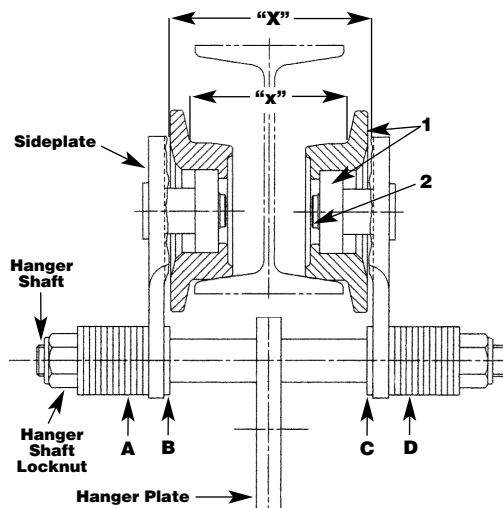

Figure 1 - ET-A Trolley
- Measure the I-beam flange width. Refer to Chart 3 - Spacer Washer Adjustment Chart for initial trolley adjustment. Check "X" dimension (See Figure 1) against Chart 3 and compare wheel flange spacing to beam flange width measurement before actually installing the trolley on the beam.
- Observe the trolley operation. The trolley should move freely with the wheel flanges as close as possible to the edge of the I-Beam. If it appears that the trolley sideplates could be moved closer together and still maintain freedom of movement, move one additional washer from location C to location D (See Figure 1).
- If additional adjustment is required, be sure to keep the hanger plate as near to the center of the trolley as possible. There should be no more than one washer difference between locations B and C (See Figure 1).
Chart 3 - Spacer Washer Adjustment (For Quantity & Location Refer to Figure 1)
Chart 2 - Parts List (Refer to Figure 1)